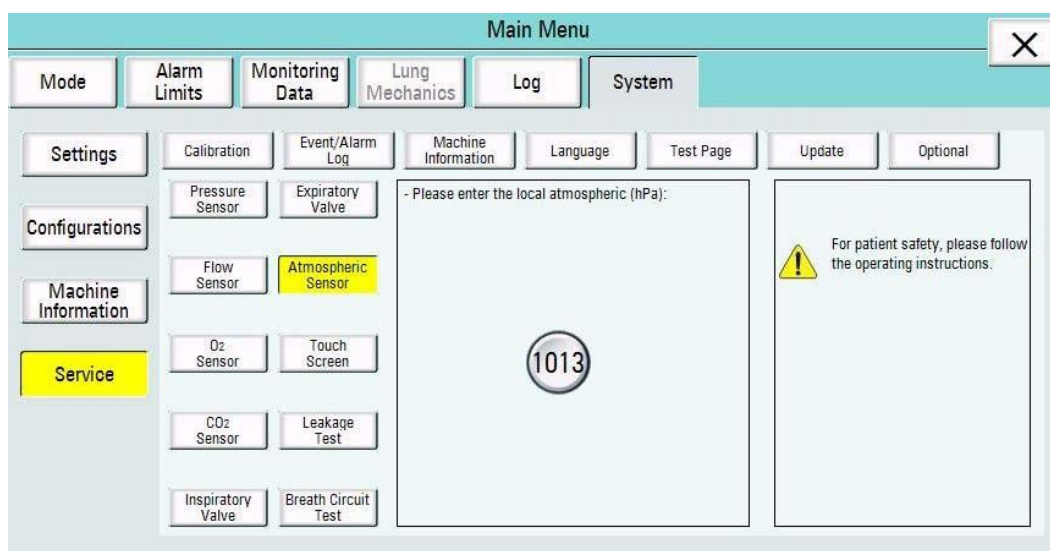

Figure 6-69
(7) Atmospheric Sensor Calibration: Click “Atmospheric Sensor” to enter the atmospheric sensor interface, as shown in Figure 6-69.